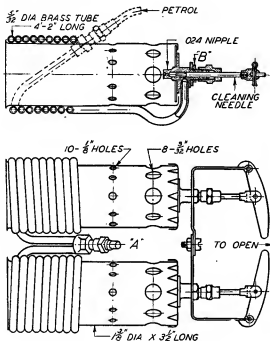

Fig. 12. Original twin blowlamp.
The lamps, during 1939, gave very little trouble, as they are based on the most successful one developed in 1938 for *Tich I*. Fig. 12 shows the twin lamps as first made. Each one consists of a flame tube $1\frac{1}{8}$ dia., $3\frac{1}{2}$ in. long of tin plate on which is wound 50 in. of $5/32$ dia. brass tube, one end of which is brazed to the nipple unit and the other to a dual fitting, A, carrying a union for the main petrol pipe.
4. Provide a means of coupling the two lamps and supporting them in the boat, e.g., by a locknut such as shown at B, Fig. 12.